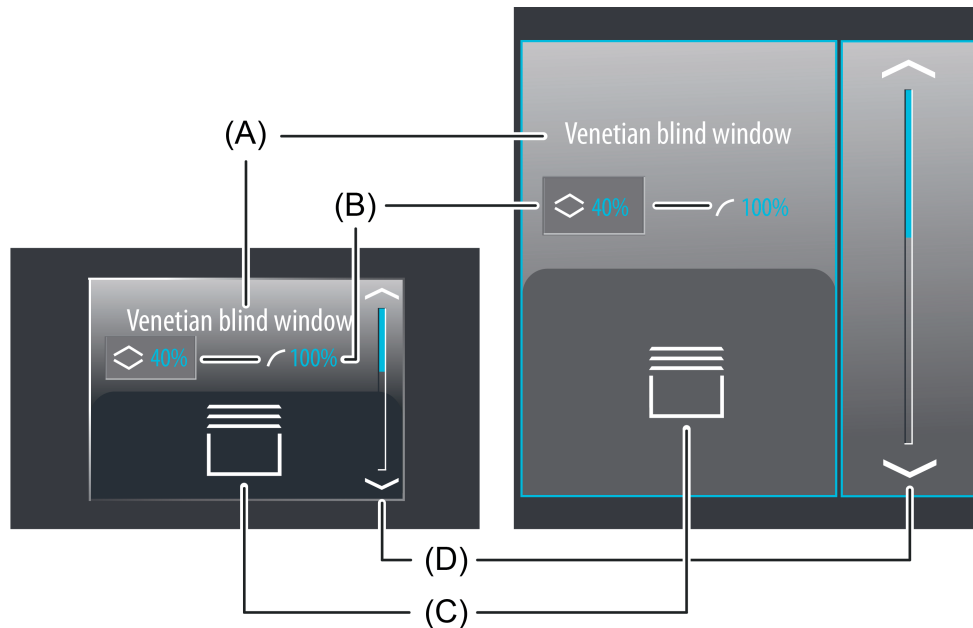

Figure 27: Example of an operating and display element of the function "Venetian blind Step /Move/Step"
The display area contains different display elements (figure 27) that are influenced by parameters. A name can be assigned to each KNX function in the configuration software (A). This text name is centred in the display element for display whereby controllable KNX functions are identified for the user (e.g. "Venetian blind window"). In addition, two status values (B) for blind/shutter height and slat position can be displayed below the name, which display position values in plain text ("0...100 %") depending on the object values of the position feedbacks of the Venetian blind actuator addressed. After a device reset, the display shows "---%" until feedback object values of the status values are received.